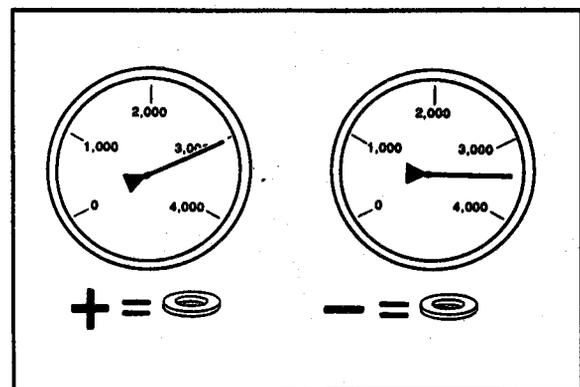

Figure 7-15
4. If opening pressure is out of specification, change shim pack. Adding shims will increase pressure (Figure 7-15).